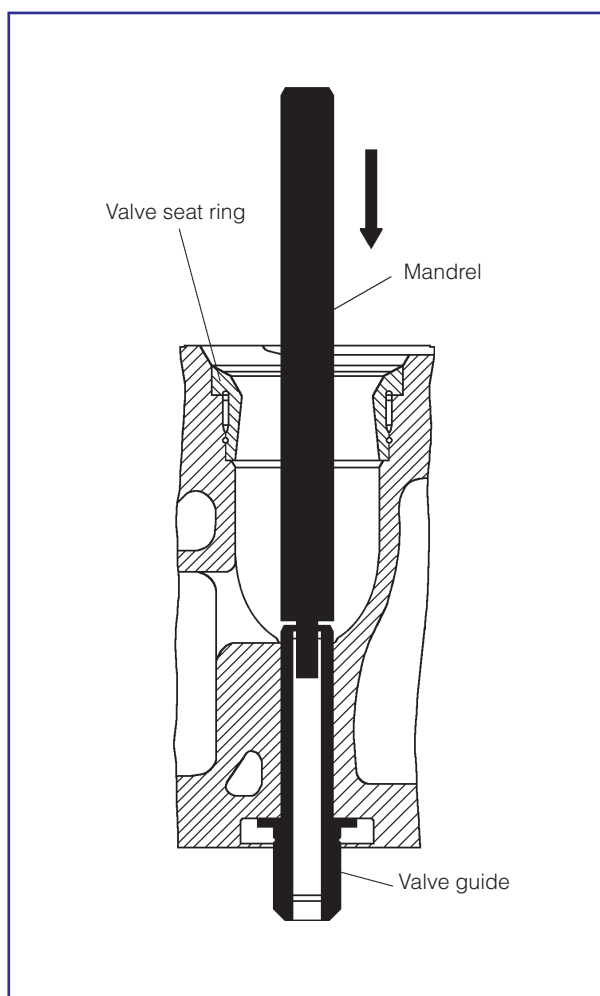

Fig 1
- 1) The valve guide is knocked out from the bottom of the cylinder head, by means of a mandrel, which has a shoulder turning that fits into the valve guide, see fig. 1.